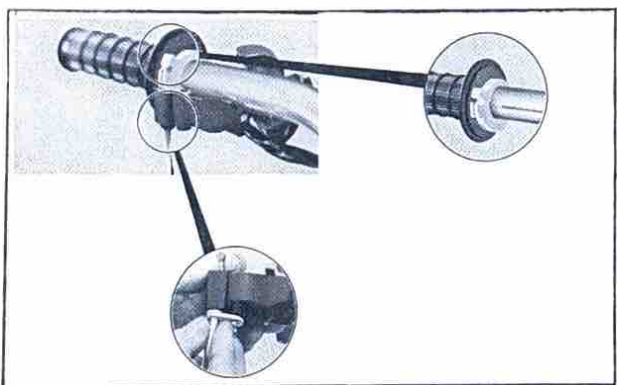

Fig. 27
20. Thread the throttle wire through the hole in the lower handle lever holder. Hook the throttle cable end into its seat in the throttle guide housing. Then, grease the throttle cable and handle lever holder. Next, bolt the upper and lower handle lever holders together, and check the accelerator grip for smooth action. (Fig. 27)